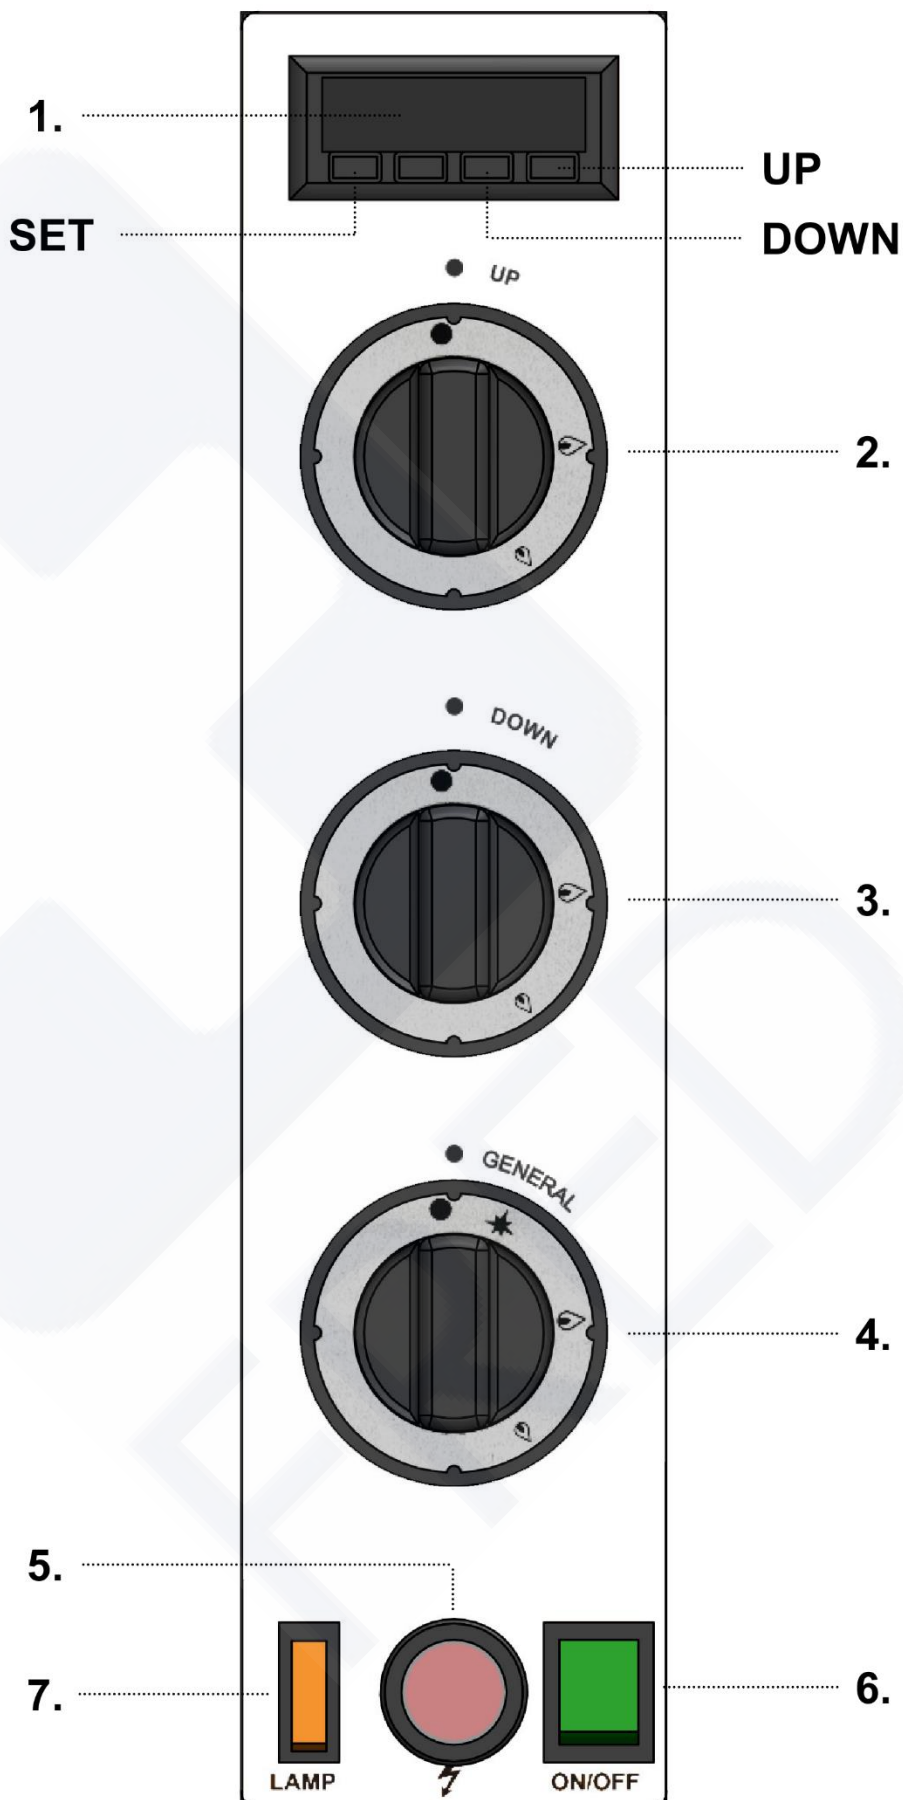

FIG.14
The control panel (FIG.14) is fixed at the right side on the front part of the oven, from here the users can manually operate or cook in the oven.
- 3) Press on the general electrical switch (FIG.14-Rif.6), the green lamp will light;
- 4) Set the thermostat/thermometer to the working temperature pressing the "set" and "+" or "-" keys (FIG.14-Ref.1). In case the desired temperature is the same or below than the atmospheric temperature it will be impossible to switch on the burners because the thermostat is connected to the gas feeding electrovalve which stops the gas flow when the temperature reaches the desired value.
- 5) Rotate the knob of the general tap of the gas supply (FIG.14-Ref.4) to the position,  press and hold the knob and at the same time press repeatedly the piezoelectric ignition pilot (FIG.14-Rif.5); release the knob should the pilot burner lights; The pilot flame must remain lighted; if it does not happen, repeat the operation.
- 6) Rotate the general tap knob (FIG.14-Ref.4) to the position  (maximum power);
- 7) Turn open the respective taps of the upper burner (FIG.14-Ref.2) and lower (FIG.14-Ref.3) and rotate
Once the oven has reached the desired temperature (see point 5 of the present paragraph), visible on the thermostat/thermometer (FIG.14-Ref.1) it is possible to put the pizza in the oven for cooking.
- 2) To illuminate the internal of the oven press "on" the oven light (FIG.14-Ref.7);
- 1) Turn off the oven ,rotating the knobs in position ● "Off" (FIG.14-Ref.2/3/4);
- 2) Switch off the internal illumination of the oven using the light switch (FIG.14-Ref.7);
- 3) Turn off the general switch (FIG.14-Ref.6) sputting the green light off ;